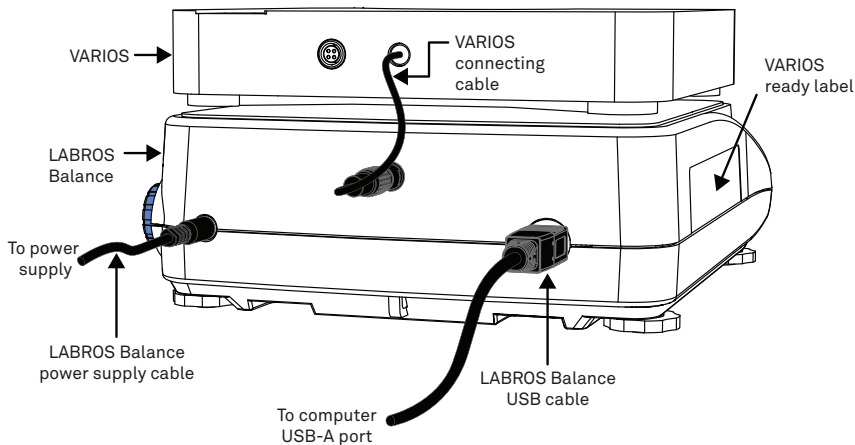
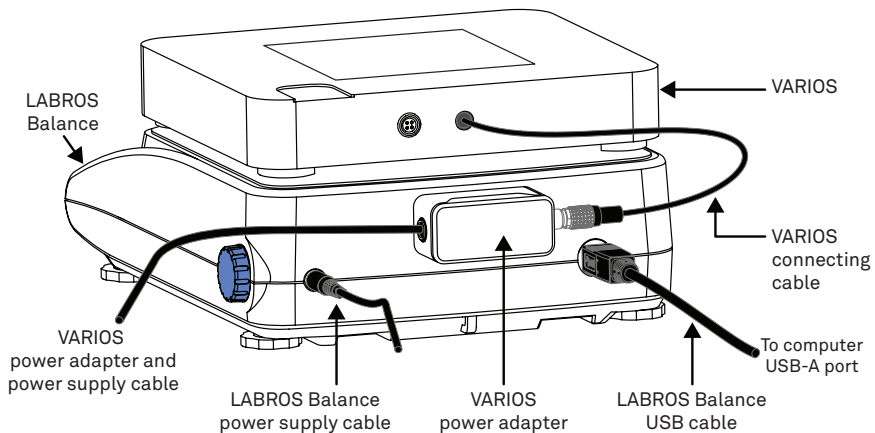

Figure 3 VARIOS Complete Set for thermal dryout configuration—back view
Figure 4 VARIOS Extension Set with power adapter for thermal dryout configuration back view
The VARIOS Extension Set does not include the LABROS Balance. If this set will be used with an existing HYPROP Balance (not VARIOS ready), make sure a USB cable and power adapter with cable is included (Figure 4).
Installation	<p>Install LABROS SoilView Software and METER USB Driver Download the LABROS SoilView Software Download.</p> <p>Run the <code>LABROS SoilView.exe</code> file and follow the installation instructions.</p> <p>NOTE: LABROS SoilView software can only be used with Microsoft Windows 10 or newer.</p> <p>If there is a problem executing the LABROS SoilView.exe, please download and install Microsoft.NET Framework 4.8.0 manually and have the current version of the Microsoft Windows installer.</p> <p>Click on the LABROS SoilView icon to open the program.</p> <p>Connect VARIOS to LABROS Balance (VARIOS ready) Insert the VARIOS connector cable into the back of the LABROS Balance (Figure 3).</p> <p>Connect VARIOS to a HYPROP Balance that is not VARIOS Ready Connect the VARIOS connector cable into the VARIOS power adapter, and plug the power adapter into the HYPROP Balance (Figure 4).</p> <p>When the VARIOS is powered, a blinking white light will appear on the front of the unit. See Table 10 for more information regarding the lights and meanings.</p>
4. Plug the VARIOS connection cable on the back of the VARIOS into the connector (Figure 3).
5. Plug the USB-B connector to the back of the Balance and the USB-A connector to the computer (Figure 3).
When using an existing Balance that is not VARIOS ready, the Extension Set should be used. The Extension Set includes a METER power supply that plugs into the back of the Balance. A power adapter is not included. Contact Customer Support for ordering information if a power adapter is needed. Follow the steps below to connect the VARIOS Extension Set (Figure 4).